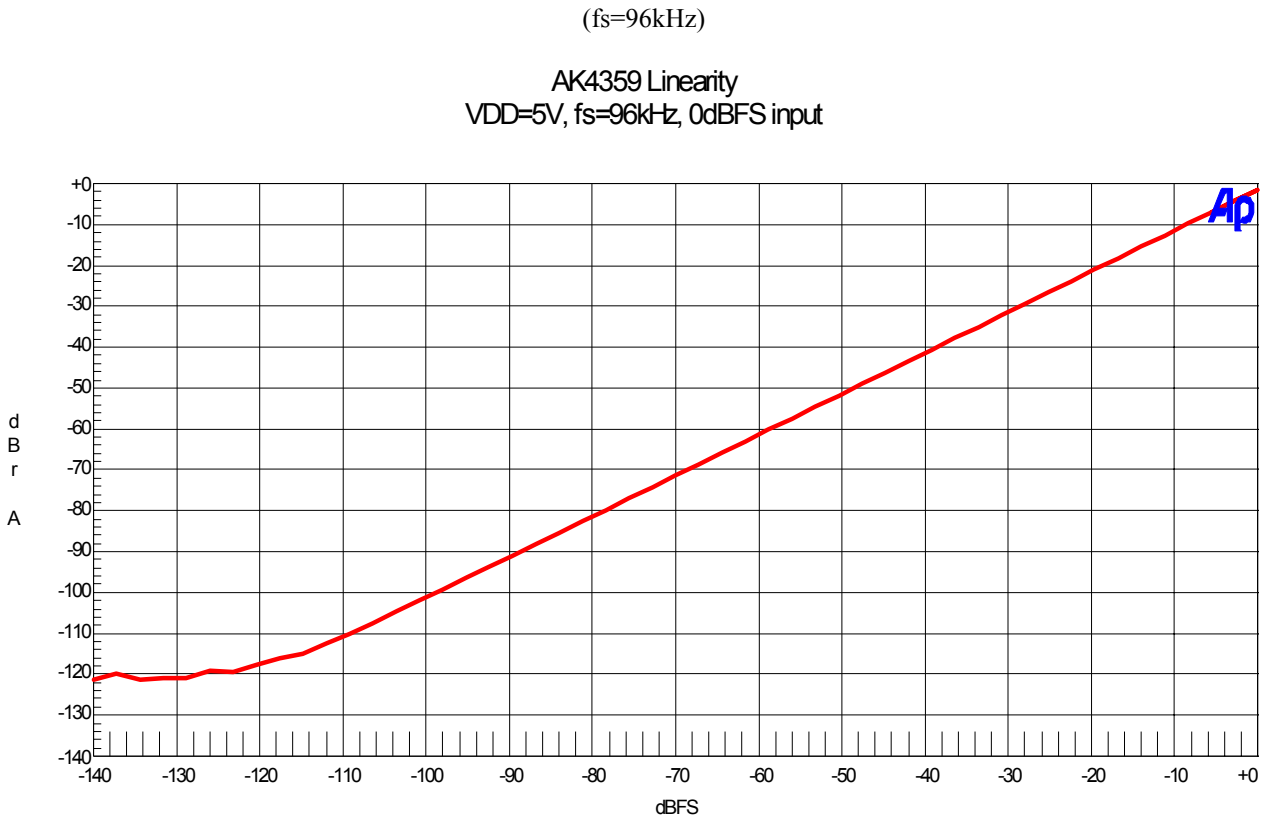

Figure19. Linearity (fin=1kHz)
- Figure19. Linearity (fin=1kHz)